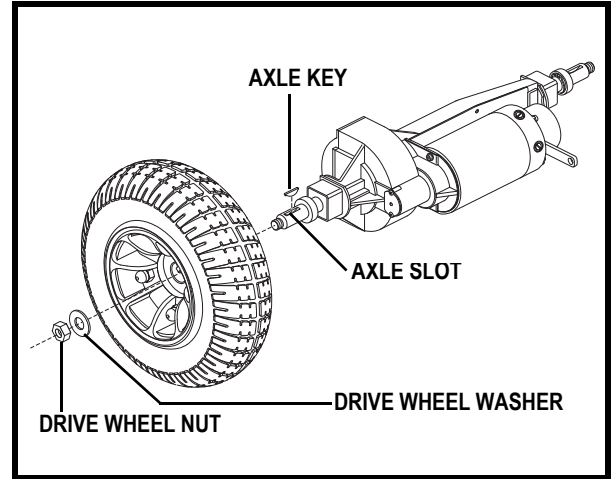

Figure 27. Drive Wheel Removal
3. Remove the drive wheel nut and washer from the axle. See figure 27.
5. Slide the new wheel back onto the axle. Make sure that the axle key is in the axle slot. See figure 27.